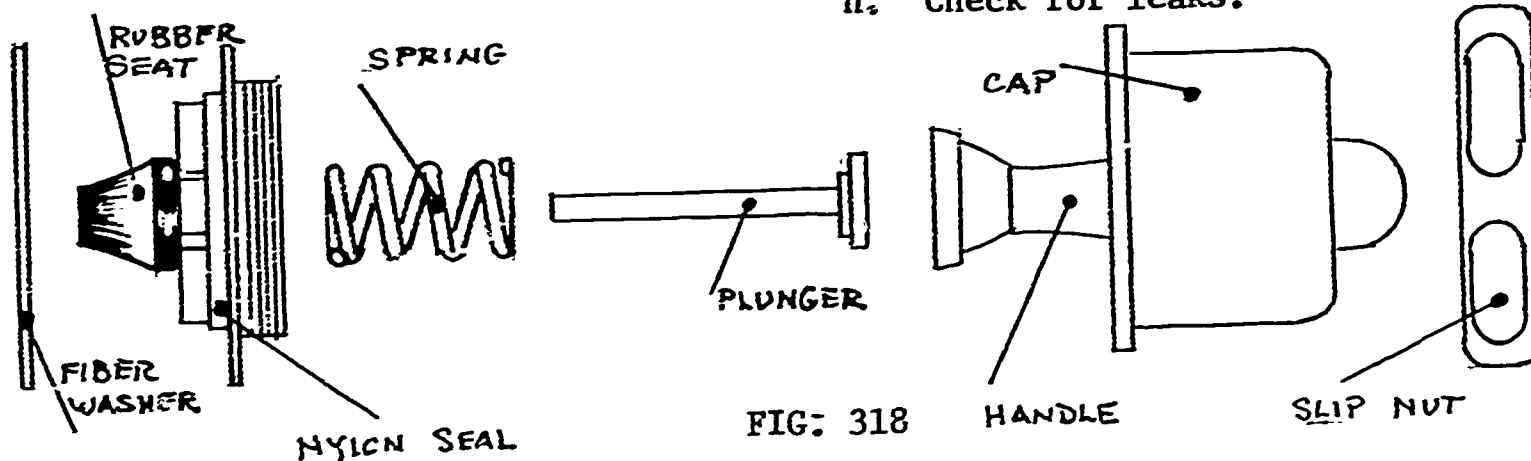

FIG. 318
- a. Remove slip nut around handle with wrench--careful of the chrome. See figure 318.